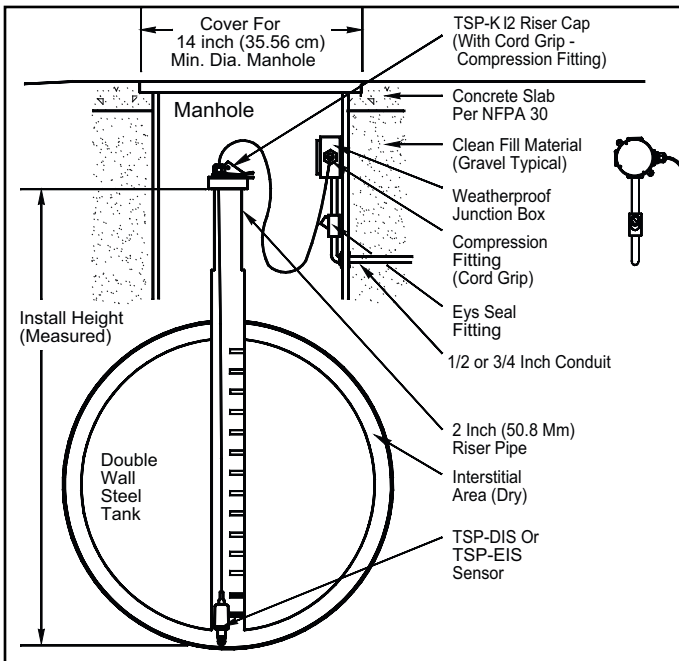

Figure 3: Installation in double-Walled Steel Tanks
5. Interstitial installation (Figure 3), measure the INSTALL HEIGHT needed and add 1.5 inches for the riser cap = total height.
Mark the total height required on the sensor cable, and pull the cable through the TSP-KI2 riser cap until the mark shows at the top of the cord grip fitting. Tighten the fitting and lower the sensor into the interstitial area of the tank as shown in Figure 3.